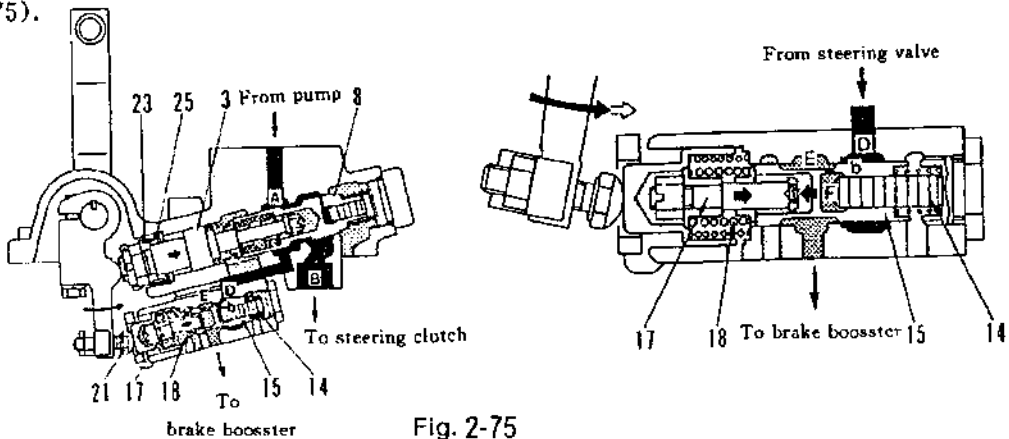

Fig. 2-75
(5) When the oil pressure at the brake valve reaches the maximum valve:
When the steering lever is pulled to its stroke end, shaft (3) moves in the direction of the arrow until it contacts stoppers (23) and (25). Steering valve (8) does not move any more. Adjusting bolt (21) pushes shaft (17) in the direction of the arrow to compress brake valve (15). Shaft (17) does not reach the stroke end even when shaft (3) reaches the stroke end and the oil entering port F via orifice "b" of brake valve (15) pushes piston (14). The reaction force pushes back brake valve (15) in the direction of the arrow to compress spring (18) and close the passage between ports D and E. In this state, the oil pressure in the circuit from the inlet to the booster balances with the tension of spring (18), reaching the maximum installation load so that the oil pressure is kept at a constant value and the brake operation is completed. Under these circumstances oil pressure in the circuit after port E is 1.66MPa (as shown in Fig. 2-75).